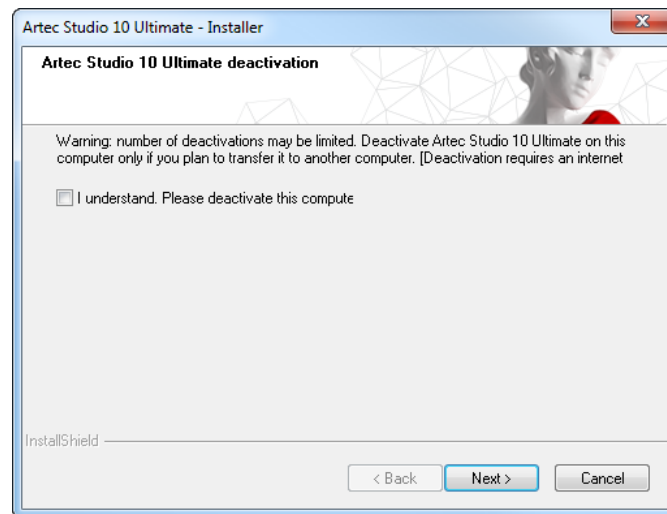

Figure 4.17.: Deactivation of Artec Studio.
3. The dialog shown in Figure 4.17. will appear. Select the *I understand. Deactivate Artec Studio on this computer* checkbox.